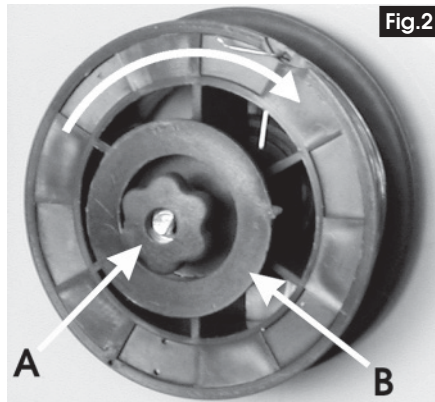

Fig.2
2. (Ref. Fig. 2). To fit the wire spool, firstly open the side compartment by pulling the cover upwards.